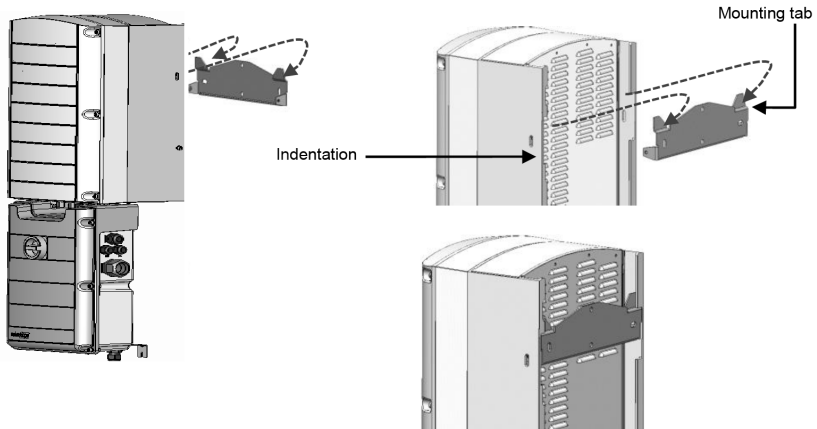

Figure 16: Hanging units
- b. Align the two indentations in the enclosure with the two triangular mounting tabs of the bracket, and lower the unit until it rests on the bracket evenly (see *Figure 16*).
- Align the two indentations in the enclosure with the two triangular mounting tabs of the bracket, and lower the unit until it rests on the bracket evenly (see *Figure 16*).